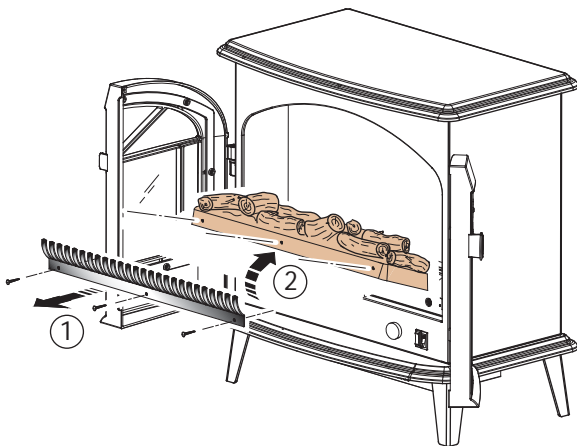

Fig. 6
2. Remove the fret, then tilt and slide out the log effect assy (see Fig. 6).